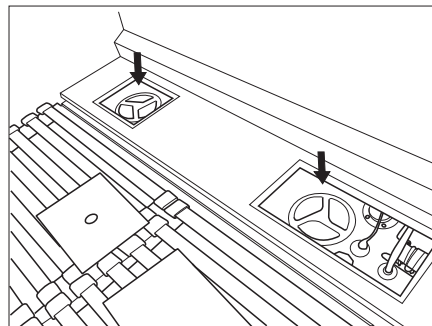

Fig. 68 Cleaning openings fresh water tank (illustration similar)
- Screw out and remove the cleaning openings (Fig. 68).